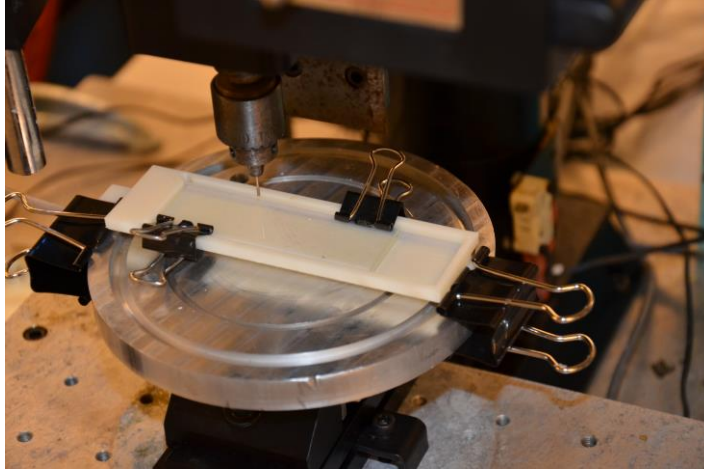

Figure 2 - Microscope slide chuck clamped onto the Microfluidics Lab CNC Mill
4. Attach the glass slide drill chuck to the vacuum chuck using binder clips (figure 2)
- 5.1. Jog the chuck under the camera and align the cross-hairs with one edge of the chuck (figure 2)